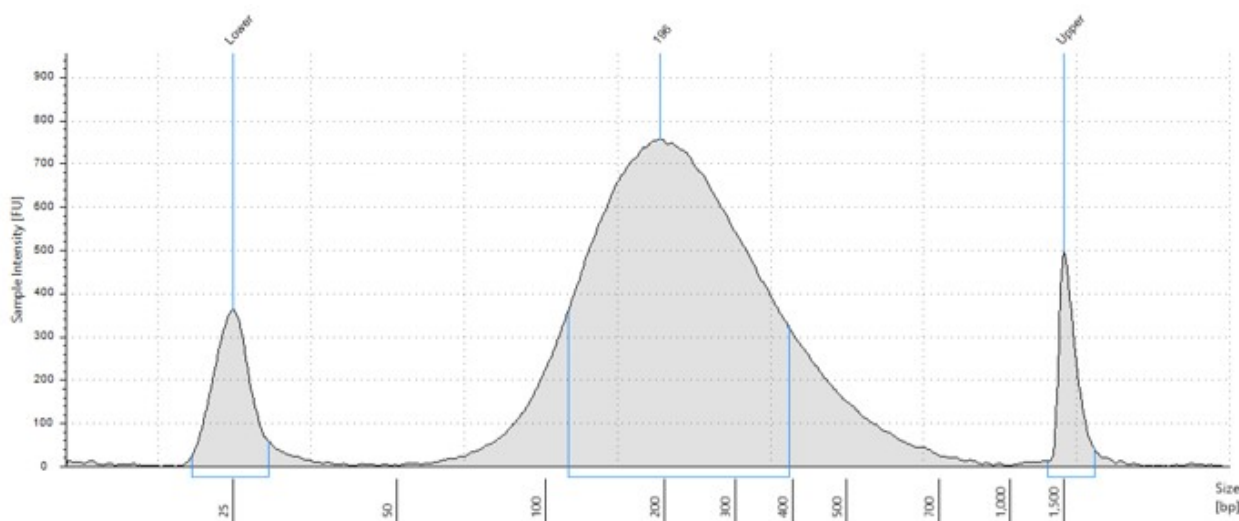

Figure 3: Analysis of fragmented DNA using an Agilent High Sensitivity D1000 ScreenTape assay. Size distribution with a peak between 150 to 250 bp (+/- 10%).
13. The quality and quantity of DNA obtained after fragmentation should be assessed using the High Sensitivity Agilent 2200 TapeStation, Agilent Bioanalyser or similar. An example of a good DNA trace is shown in Figure 3. Ensure a distribution with a peak height of 150-250 bp is achieved. Set up the machine and prepare the tape, samples and ladder following the manufacturer’s instructions.